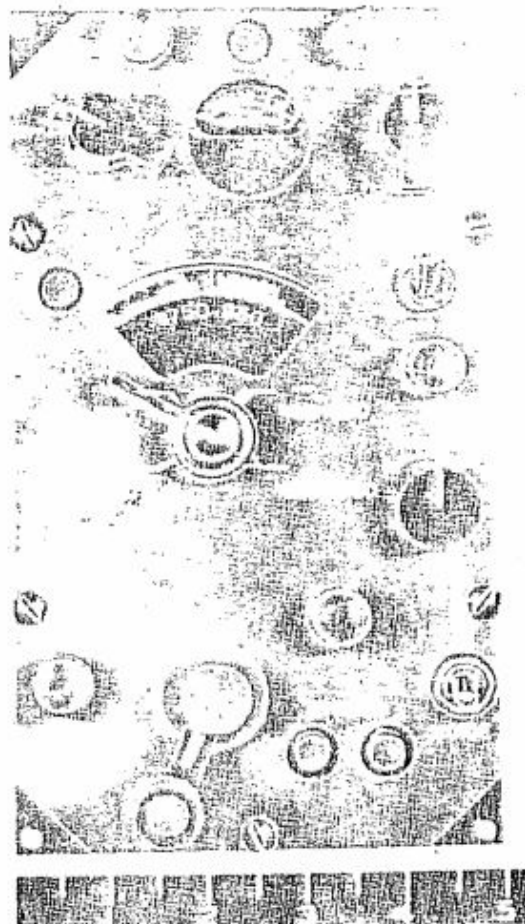

Figure 1-1A. Control Panel C-403A/A
3A. OPTIONAL EQUIPMENT.**a. CONTROL PANEL C-403A/A. (See figure 1-1A.)**
l. CONTROL PANEL C-403A/A. (See figure 1-1A.)—Control Panel C-403A/A is similar to Control Box C-149/ARN-6 except that it is a flat panel assembly for flush mounting and has no headset jack. Headset operation is to be provided through the aircraft interphone facilities. All electrical connections are made by a wiring harness included as part of the unit. The following controls are included: "OFF-COMP-ANT-LOOP-CONT." function switch, tuning meter, "LOOP L-R" switch, "LIGHTS HI-OFF-LO" switch, dial, bandswitch, "TUNING" crank, "VOLUME" control, "CW-VOICE" switch, and two "SPARES" bulbs for the instrument lights. The plastic panel is internally illuminated by five lights AN3502. No spare lamps are provided for the panel lights.